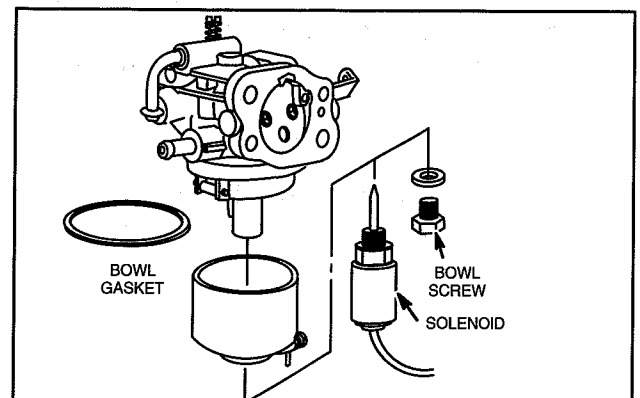

Fig. 41 – Install Float Bowl
- a. Position bowl drain as shown, Fig. 41.